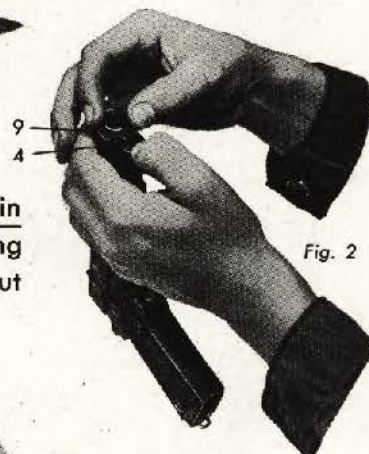

Fig. 2
**Insert the recoil spring plug.** Move the slide all the way forward, leaving the hammer cocked and locking the safety lock. Set the recoil spring plug over the end of the spring (see fig. 3) and push the plug in until it is flush with the slide. Then turn the barrel bushing down until the plug snaps forward between the lips of the barrel bushing. (See fig. 2)